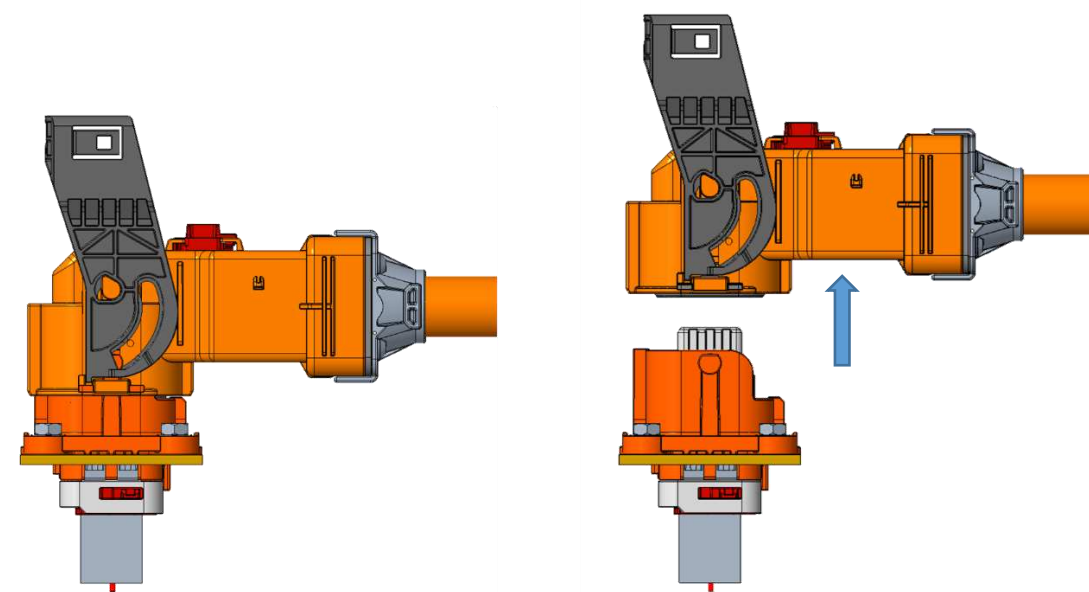

Figure 24: Plug and Header Un-Mate
3. Holding the connector body pull the plug until it is completely separated from the header as shown in Figure 24.